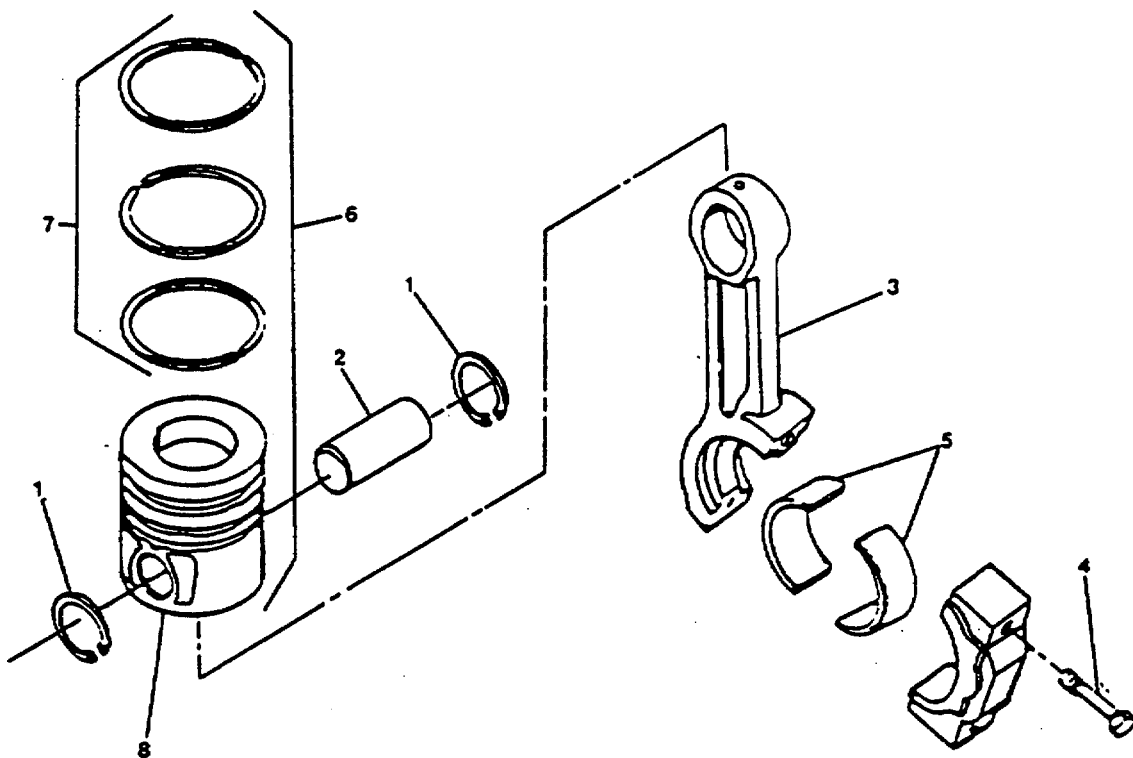

FIGURE 3-82. Piston and Connecting Rod Assembly.
- b. Install the bearing sleeves (5, FIGURE 3-82) into both the rod (3) and the cap (9). Make sure the tang on the bearing/sleeves are in the slot of the cap and rod.